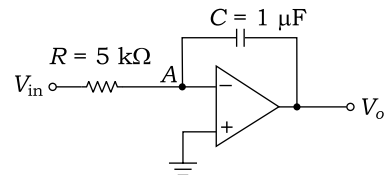

Fig. 7.107
28. Figure 7.107 shows an integrator circuit. Find out the output voltage when input voltage is $5 \sin 100 \pi t$ and show the output voltage waveform.